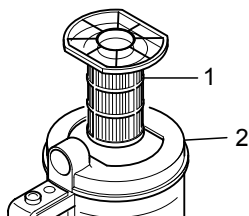

Fig. 20
3. Remove the central laminar filter (Fig. 20/1) by taking it up out of the dust container (Fig. 20/2).